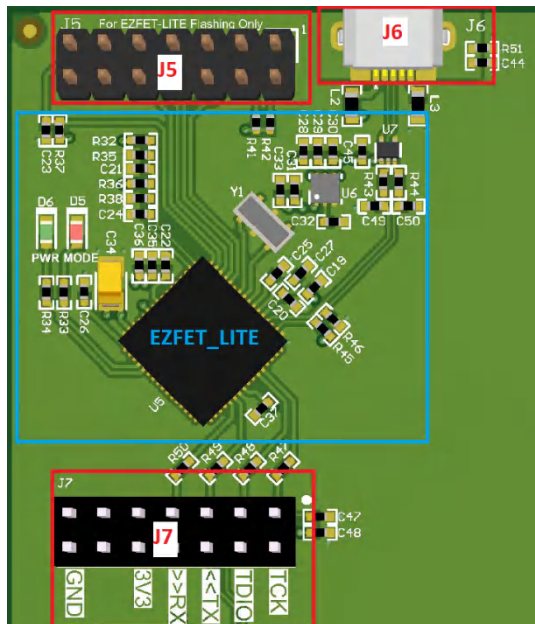

Figure 2-3. EVM Communication Connections
The micro-USB connection is the primary communication interface from your PC to the EVM GUI Application. Figure 2-3 illustrates connection associated with communications between the EVM and GUI, as well as firmware programming (some components have been removed from the picture for clarity).
2. Connect micro-USB cable to J6 (Figure 2-3). The digital portion of the EVM will become active. LEDs D6 and D7 will illuminate. The nFAULT LED D2 may blink at a fast rate to indicate the absence of VM power supply. For proper GUI application operation it is important to connect the EVM USB cable to a computer prior to applying +BAT power to the EVM. For standalone EVM testing a USB connection is not necessary.